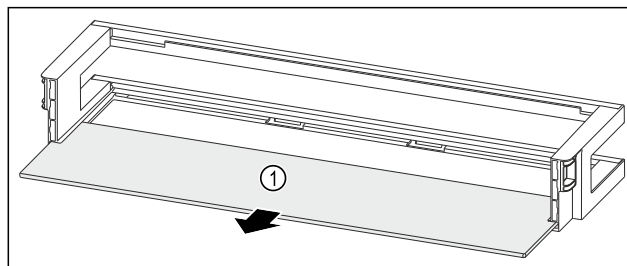

Fig. 84 Door rack with shelf
- Remove the shelf Fig. 84 (1).